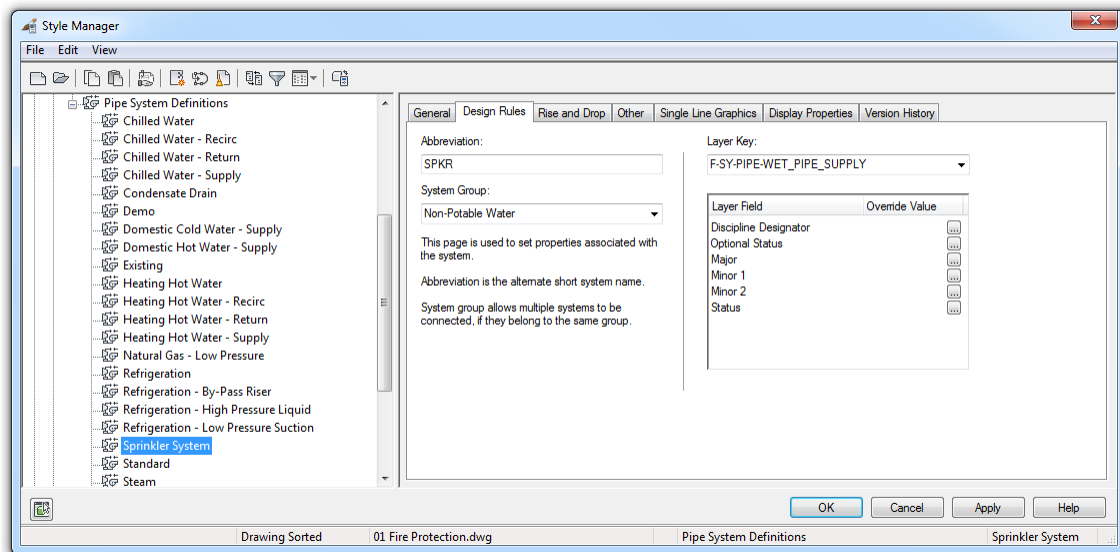

Figure 6.22
8. From the Layer Key drop-down choose **F-SY-PIPE-WET_PIPE_SUPPLY** (see Figure 6.22).